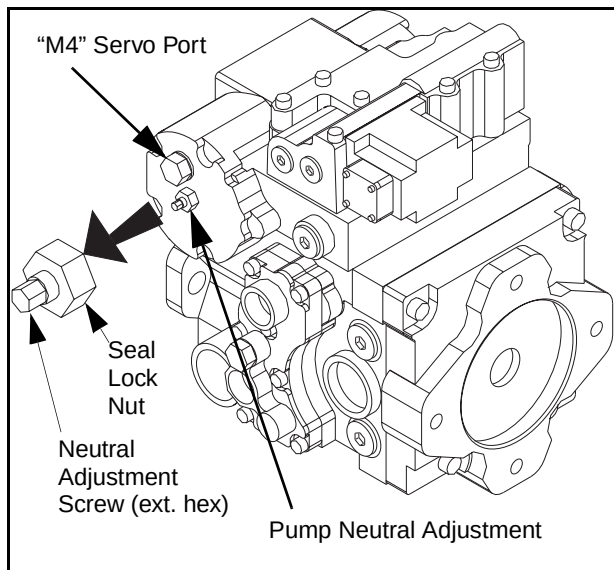

Figure 5 - 21 M4 Traction Pump Port
- 5) Rotate the pump neutral adjusting screw: (Figure 5 - 22)